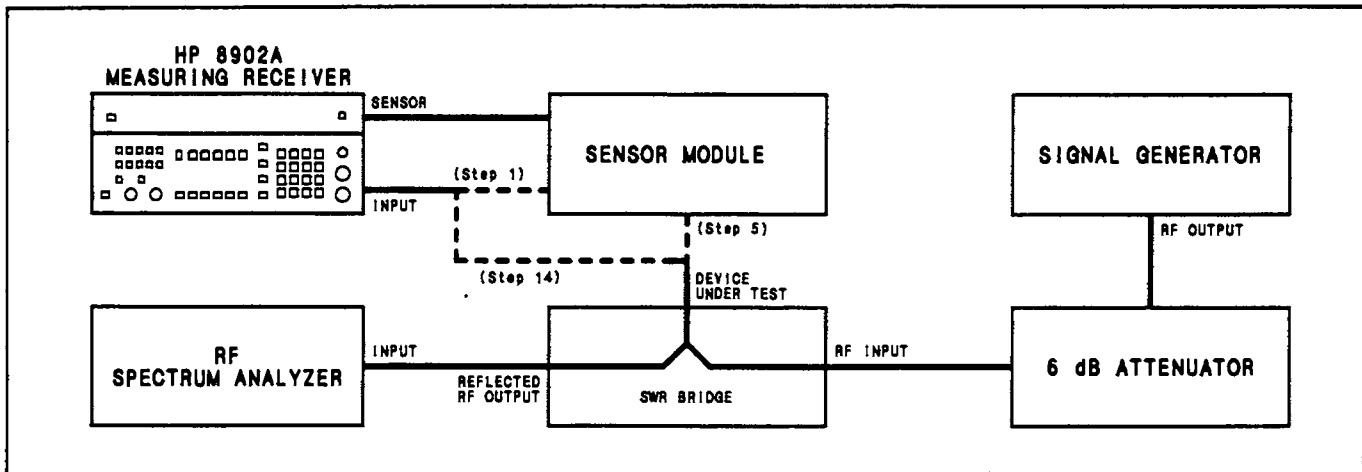

Figure 4-7. SWR Performance Test Setup
1. Connect the equipment as shown in Figure 4-7. Connect the 6 dB attenuator directly to the RF input of the SWR bridge. Do not connect anything to the device-under-test input of the SWR bridge at this time.
5. On the Measuring Receiver, press the blue key then press INSTR PRESET (the AUTOMATIC OPERATION key) to preset the instrument. Press RF POWER. Connect the sensor module to the SWR bridge. (See Figure 4-7.)
14. Disconnect the sensor module from the SWR bridge and the Measuring Receiver's input. Connect the SWR bridge's RF input directly to the Measuring Receiver's INPUT connector. (See Figure 4-7.)